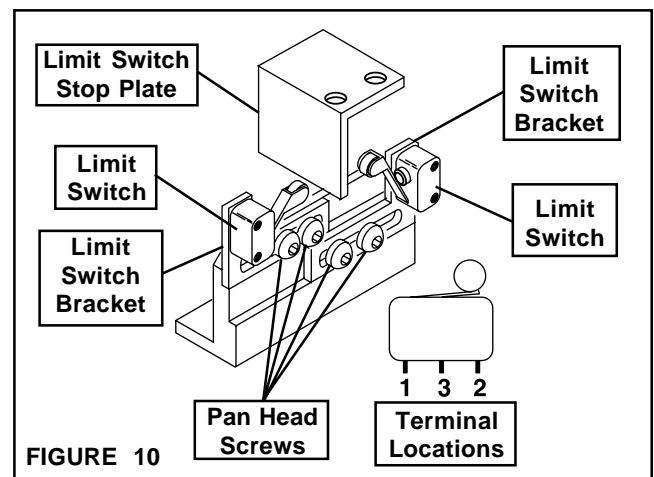

FIGURE 10
1. Loosen the Pan Head Screws holding the Limit Switch Brackets and slide the Limit Switch Brackets and Limit Switches to their fully extended positions (See Figure 10).
3. Using the Manual Push Buttons located on the front panel of the AE120, move the Limit Switch Stop Plate (attached to the Roll Base) in one direction until the desired end of travel is reached (See Figures 10 and 11).
4. Connect a voltmeter across Terminals 1 and 2 of one Limit Switch (See Figure 10).
6. Tighten the Pan Head Screws holding the Limit Switch Bracket (See Figure 10).